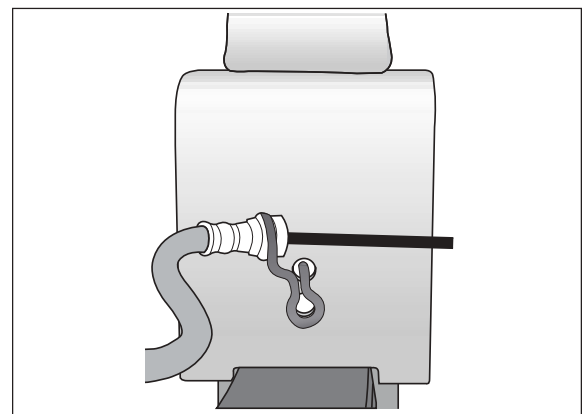

Figure 6
6. Position the lower bracket so that it is between the spring perch and brake line hanger. Insert the brake line tab through the top indexing hole on the rearward side of the lower bracket (Figure 6).